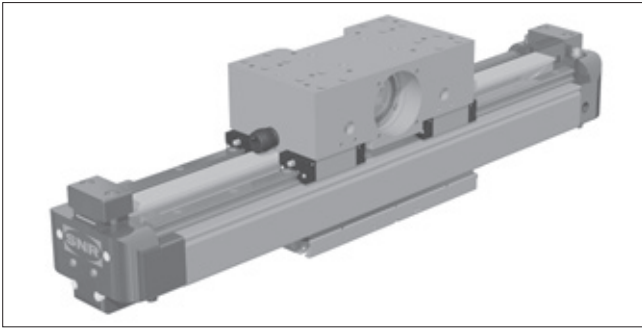

Figure 5.15 — AXS Telescopic Axis, horizontal with toothed belt /  $\Omega$  - drive
- Telescopic Axis for horizontal and vertical use (Figures 5.15 up to 5.17)